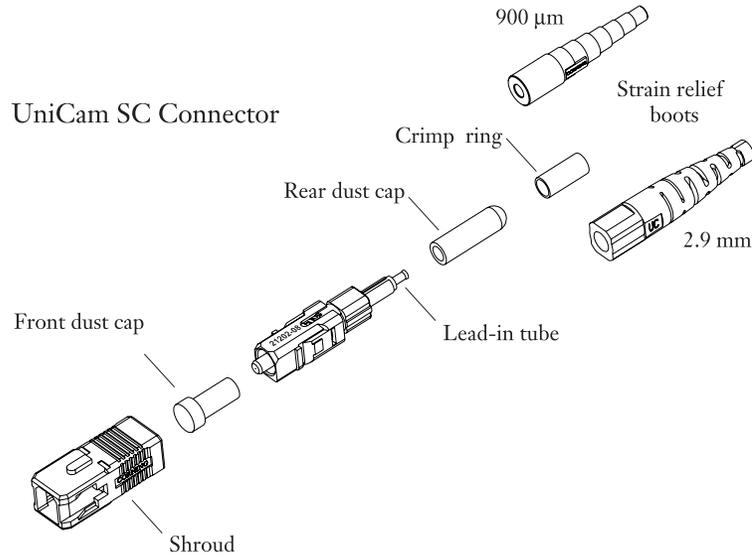

Figure 5-2
5.2-1 Each UniCam connector package contains the parts listed in Figures 5-2 through 5-4 for the connector type described.